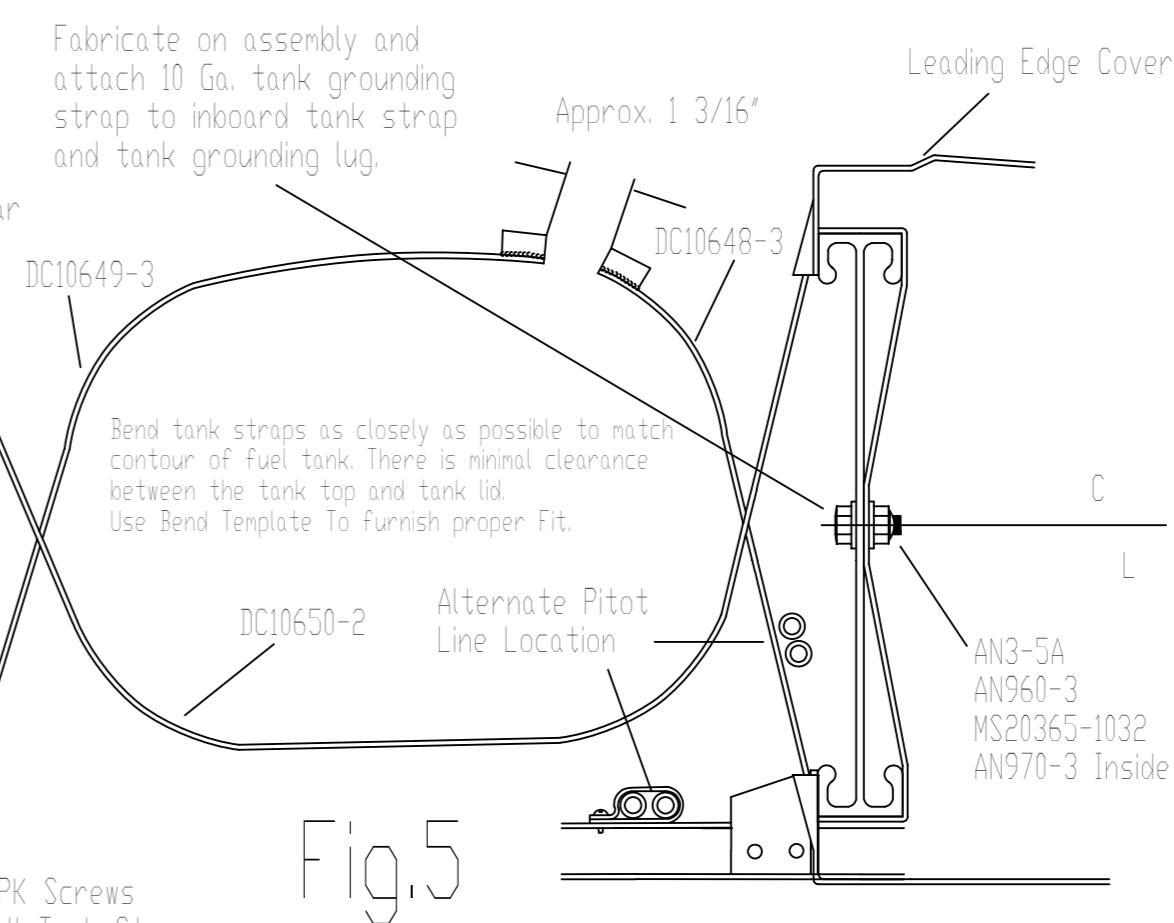

Fig.5
- 7- Install tank strap assemblies to dimensions indicated in Figs.2 & 6. Fig.5 details strap part numbers and locations with fastener call-out.
- 8- Install Pitot lines as previously installed. Alternate line routing aft of front spar web, ahead of and tied off to tank strap DC10649-3 as shown in Fig.5. Anti-chaffle Pitot line at oil contact points.
- 5- Upon completion check for adequate tank clearances, and adjust as necessary. Tighten tank straps as per Fig.5.